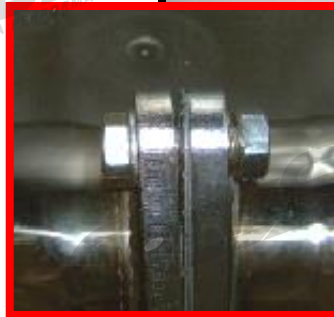

Figure 5b
- b) Attach the mid-pipe section to the axle-back section using the supplied gasket and hardware (Figure 5b).
- b) Attach the mid-pipe section to the axle-back section using the supplied gasket and hardware. Do not tighten at this time (Figure 5b).